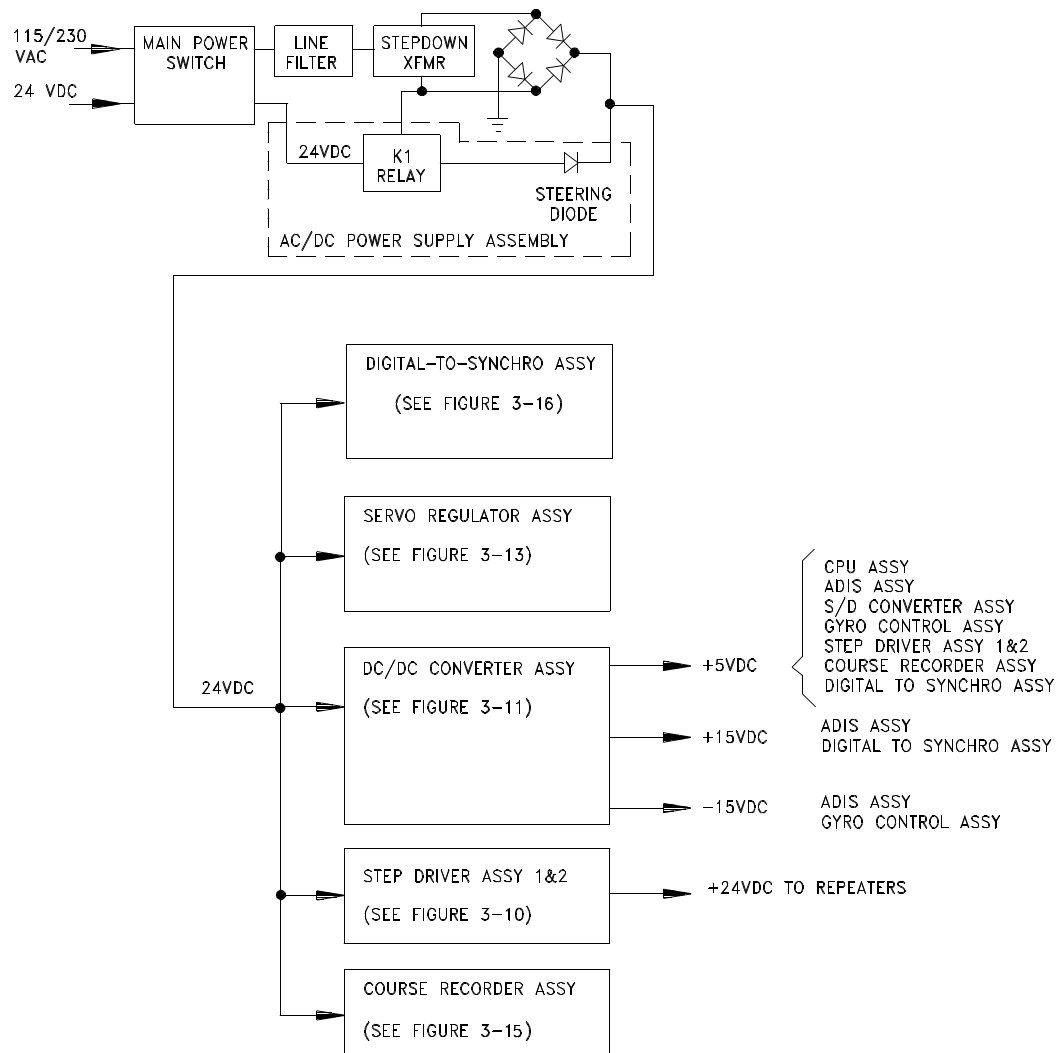

Figure 3-2. MK 37 VT Digital Gyrocompass Equipment Power Distribution Diagram
**3-3.1 Power Distribution Function.** See Figure 3-2. The MK 37 VT has two power input circuits; AC primary and 24 VDC backup. The compass has the ability to automatically switch to the backup supply due to a loss of power on the AC input. Transfer to the 24 volt backup is through a steering diode and relay that switch the positive line to provide full electrical isolation.